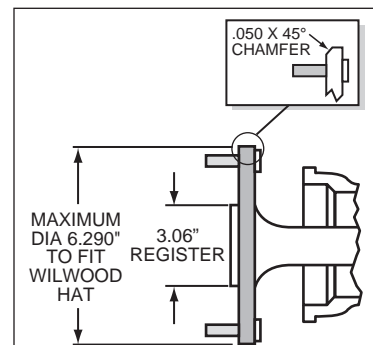

Figure 3. Axle Flange Maximum Dimension
- Maximum axle flange diameter must be no larger than 6.29" with a .050" x 45° chamfer (see Figure 3).
40 ft-lb. For an added measure of security, the bolts may be safety wired using standard 0.032 inch diameter stainless steel safety wire as shown in Figure 3. Please refer to Wilwood's data sheet DS-386 (available at [www.wilwood.com/Pdf/DataSheets/ds386.pdf](http://www.wilwood.com/Pdf/DataSheets/ds386.pdf)) for complete safety wire installation instructions. Repeat this procedure for the second caliper.